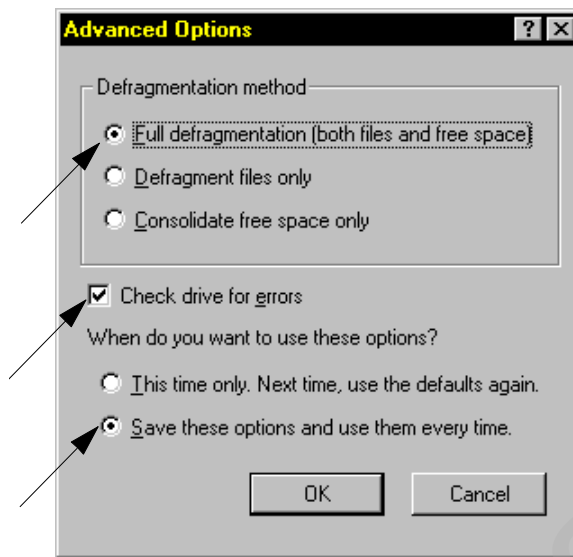

Figure A.29 Advanced Options Dialogue Box
3. Click the **Advanced...** button. This brings up the **Advanced Options** dialogue box. Refer to Figure A.29.